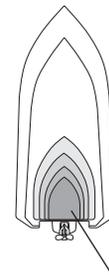

Figure 3
3. Observe the outside of the boat hull if possible, to determine the area which will be most free from turbulent water (Figures 3 and 4). Ribs, strakes, and other protrusions should be avoided, as these create turbulence.